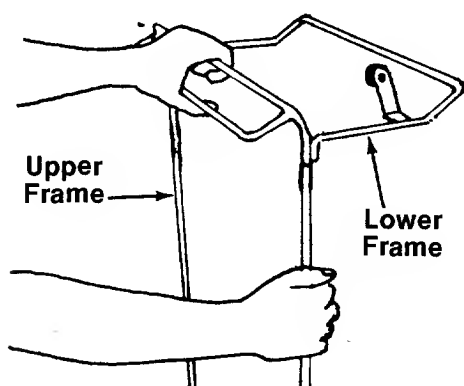

FIGURE 14.
- ← 2. Join the upper frame and lower frame assembly as shown in figure 14.